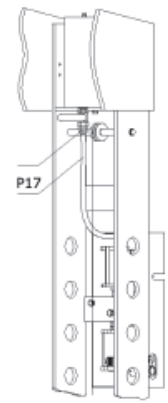

Fig.5
- 11.2.3 Then connect the oil hose (P17) to 1/2" connector (refer to fig.5). Once the oil supply hose is connected, open the oil tank valve to allow the flow of oil and check for leaks.